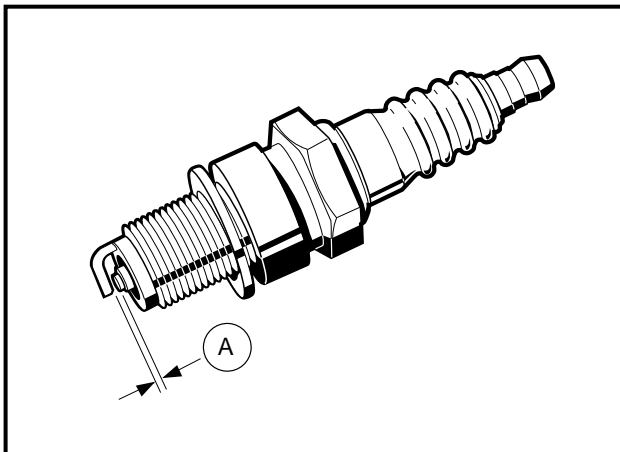

Figure 13-5 Spark Plug
Examine the plug (**Figure 13-5, Page 13-7**). The deposits on the plug base and electrode are an indication of the correct heat range and efficiency as well as a guide to the general condition of the engine, fuel and air mixture and ignition system. If all of the above conditions are proper, the spark plug should be a light brown color. There should be no bridging between the electrode and base. The electrode should not be eroded. Black color, excessive carbon, and/or a wet plug indicate a too rich condition. White, burned or melted electrodes indicate a too lean condition or pre-ignition. Oily deposits on the plug electrode are an indication of worn rings, valve guides, cylinder wall, etc. Also examine the spark plug wire. Remove rubber boot and inspect internal spring for damage. Inspect spark plug wire for damage and be sure spring coil is securely attached to spark plug. **See following WARNING.**
2. Use a wire type gauge. Bend the outside or ground electrode so only a slight drag on the gauge is felt when passing it between the electrode. Never make an adjustment by bending the center electrode. Set gap (A) to 0.027 to 0.031 in. (0.69 to 0.79 mm) **(Figure 13-5, Page 13-7)**.